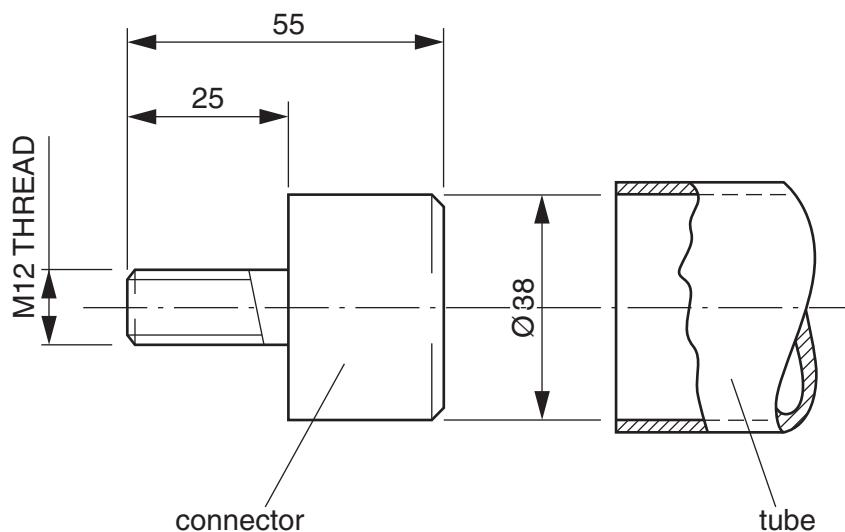

Fig. 3
Fig. 3 shows details of the fixing for the support tube into the parasol base.
- (e) (i) State a **suitable specific material** for the connector shown in Fig. 3.
- (ii) Describe, in detail, how the connector shown in Fig. 3 would be manufactured and fixed into the support tube.